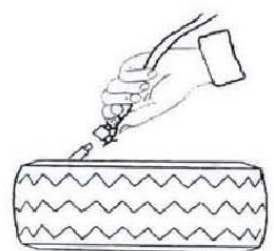

Fig 16
**Please operate as follows: (Fig 16)**